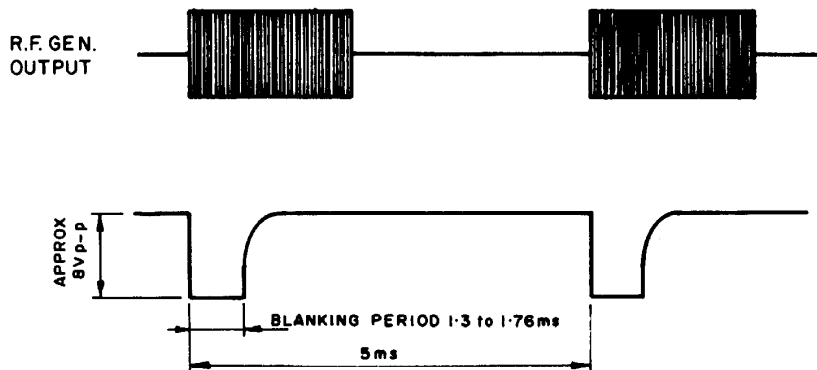

Figure 6.2 Blanking Pulse Waveforms
- d) Observe the waveform on C.R.O. and ensure blanking period is between 1.3 and 1.76mSecs. (See figure 6.2)